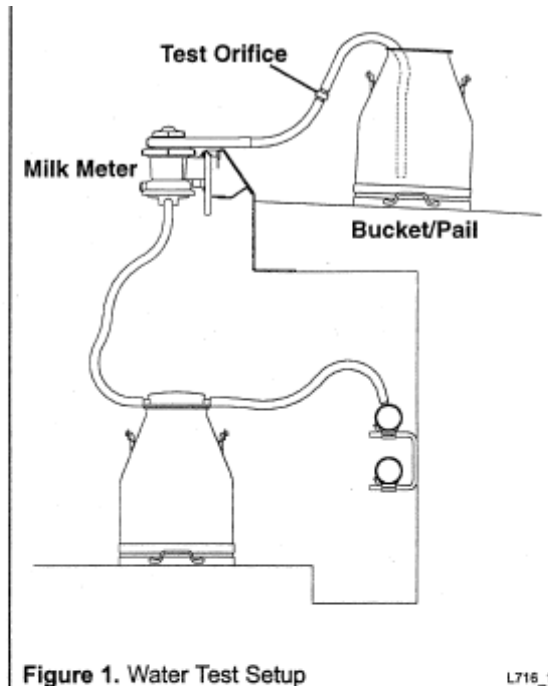

Figure 1. Water Test Setup
3. Connect the two hoses and orifice to the meter inlet as shown in Fig.1. Also connect a bucket to collect the water for recycling.